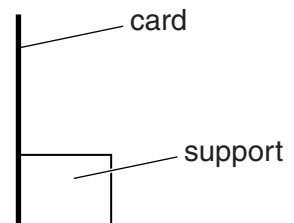

Fig. 2.2
- (iv) Screen. A white sheet of stiff card approximately 15 cm × 15 cm, fixed to a wooden support, is suitable. See Fig. 2.2.